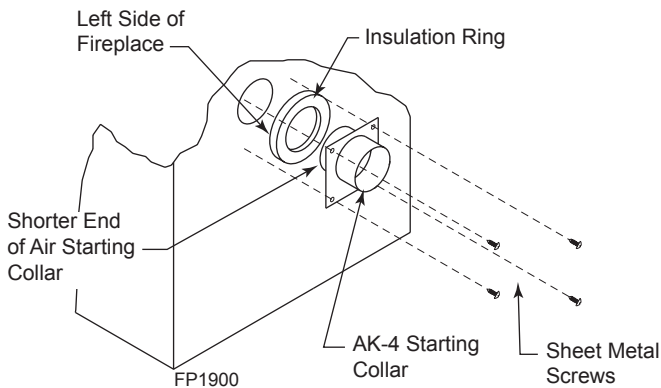

Figure 37 - Attach Outside Air Starting Collar and Insulation Ring to Left Side of Fireplace
3. Place the starting collar (4") into the hole on the side of fireplace. Fasten it in place with the four sheet metal screws provided. *Figures 37 and 38*